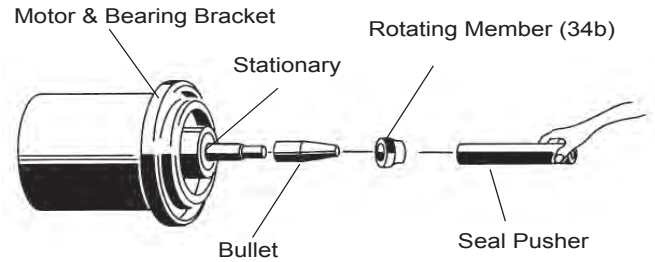
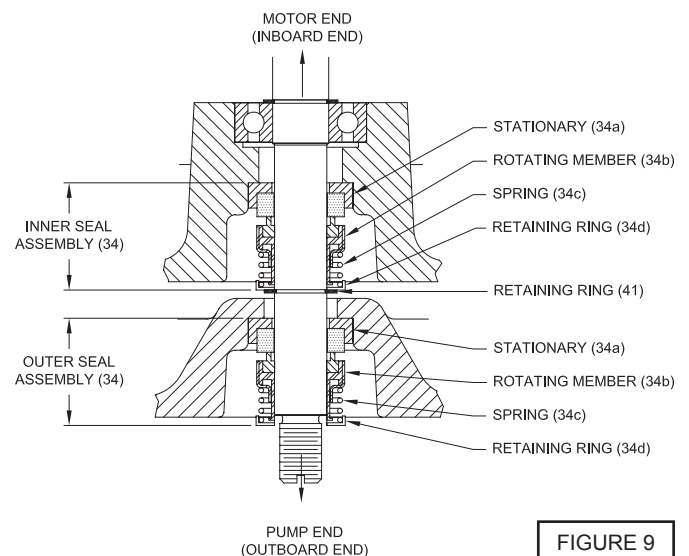

FIGURE 8
FIGURE 9
Outer Seal - To expose shaft seal (34) for examination disassemble volute and impeller as outlined in paragraph F-2.1. If further repair is required remove retaining ring (34d), spring (34c) and rotating member (34b) from shaft (see Figure 9). Examine all seal parts and especially contact faces. Inspect seal for signs of wear such as uneven wear pattern on stationary members, chips and scratches on either seal face.
Inner Seal- Clean and oil seal cavities in seal plates (1, 4). Lightly oil (**DO NOT use grease**) outer surface of stationary member (34a). Press stationary member (34a) firmly into inner seal plate (4), using a seal pusher (see parts list - seal tool kit). Nothing but the seal pusher is to come in contact with seal face (see Fig 9). Assemble pump as outlined in paragraph F-3.3.
Make sure the stationary member is in straight. Slide a bullet (see parts list-seal tool kit) over motor shaft. Lightly oil (DO NOT use grease) shaft, bullet and inner surface of bellows on rotating member (34b) (see Figure 8). With polished surface of rotating member (34b) facing inward toward stationary member (34a), slide rotating member (34b) over bullet and onto shaft, using seal pusher, until polished faces of (34a) and (34b) are together (see Figure 9).